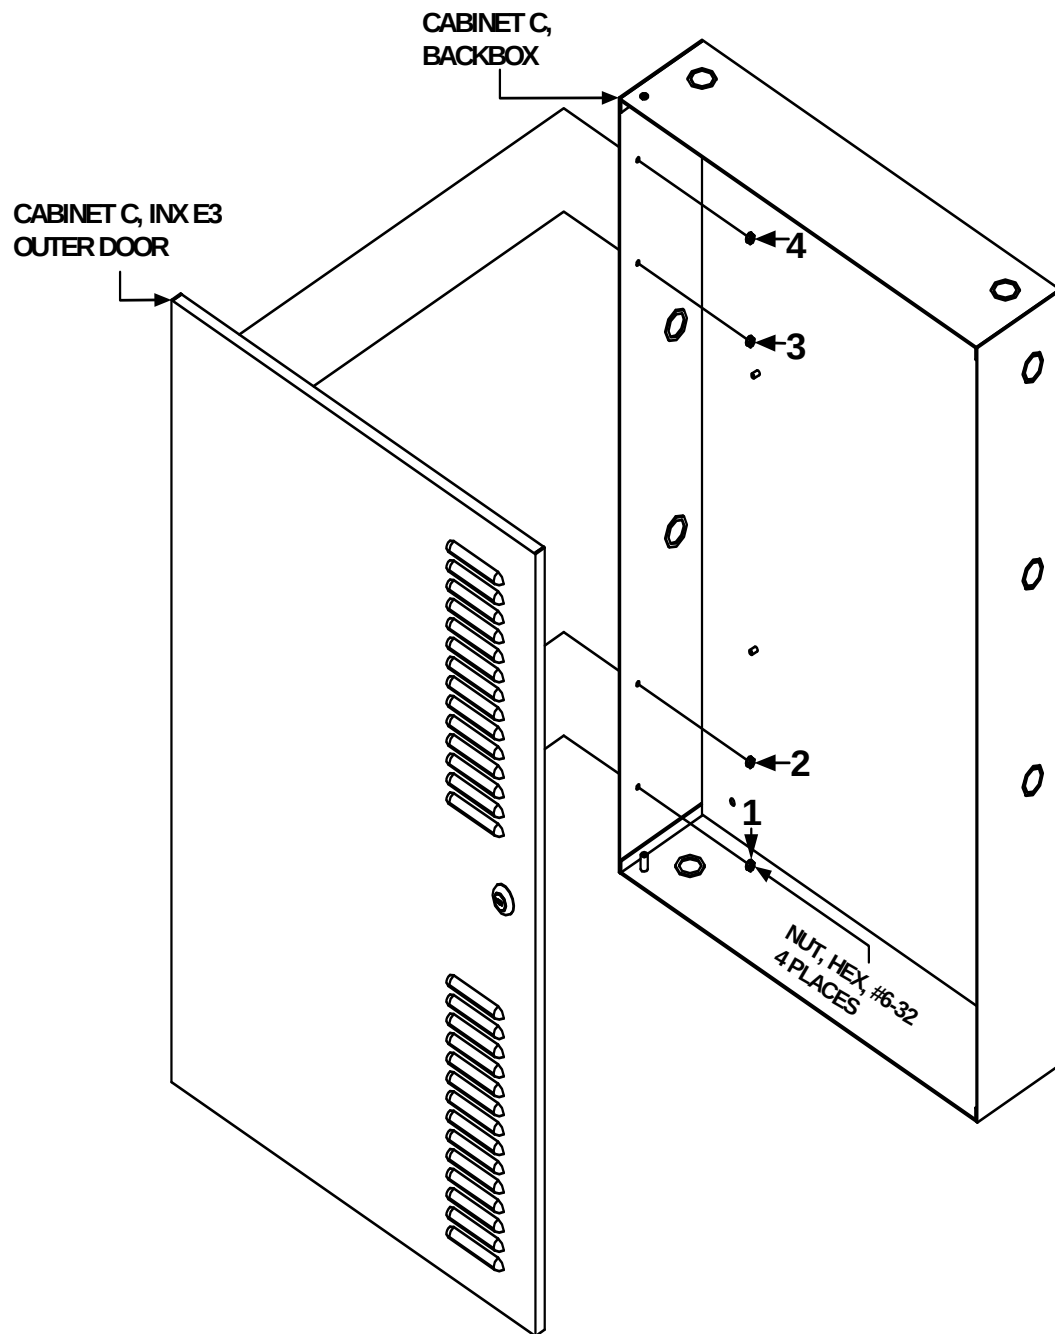

Figure 2.5.8.3.1 Cabinet C, E3-INX C Plate Outer Door Installation
1. Mount the ILI-MB-E3/ILI95-MB-E3/ANX over the standoffs on the E3-INX C plate and secure with eight (8), standoffs, (3/16" hex, #4-40 x 1") in the eight-hole mounting pattern as shown in Location 1 of Figure 2.5.8.4.2.